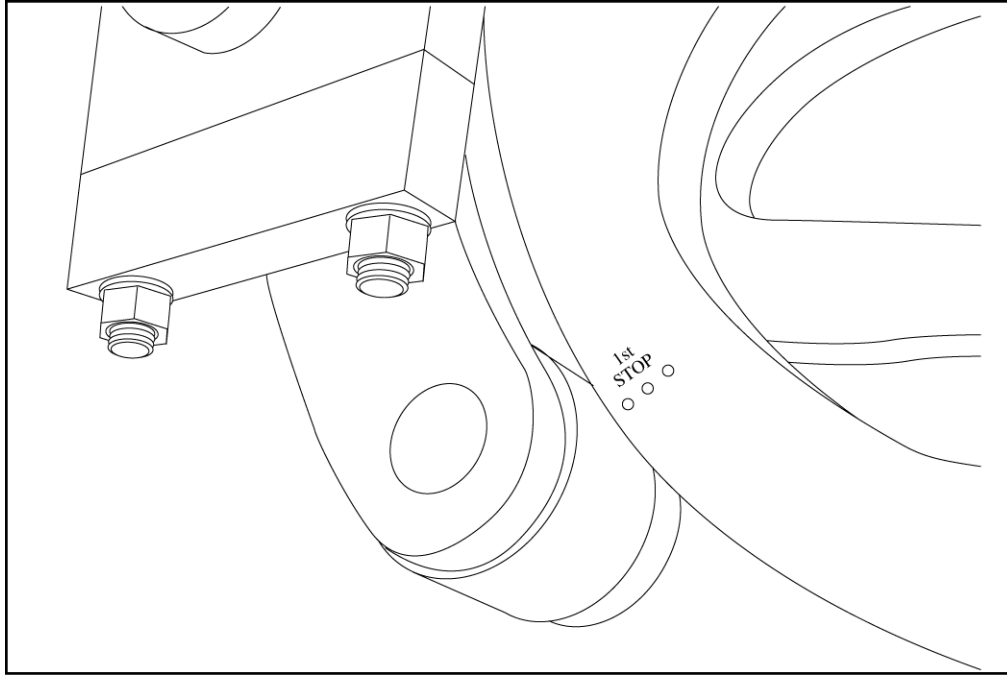

Figure 4.18 "FIRST STOP". (R.H. SIDE OF MACHINE)
- 4.2.2 Run machine to "first stop" (see figure 4.18)